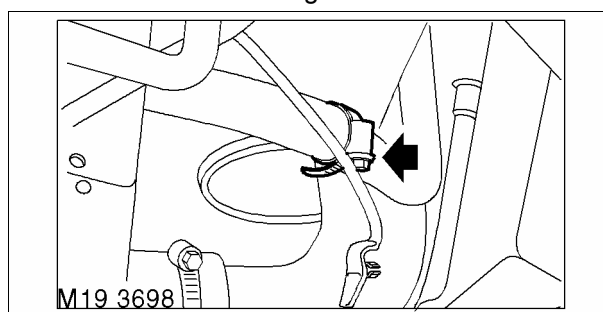

Fig. 3
- 7 Disconnect fuel tank vent hose. Fig. 3.